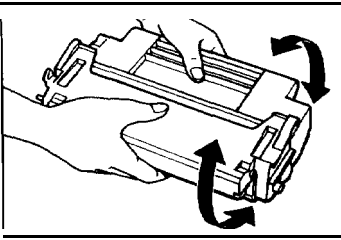

Figure 4-2
- 1) Before installing a new cartridge in the printer (or if blank spots appear on prints during use, because of uneven toner distribution) hold the cartridge horizontally and slowly rock it 45° each way about the drum axis, five or six times, as shown in Figure 4-2. This will distribute the toner evenly. Then install the cartridge in the printer. Using any other method may result in toner leaking from the developing unit or cleaning unit.